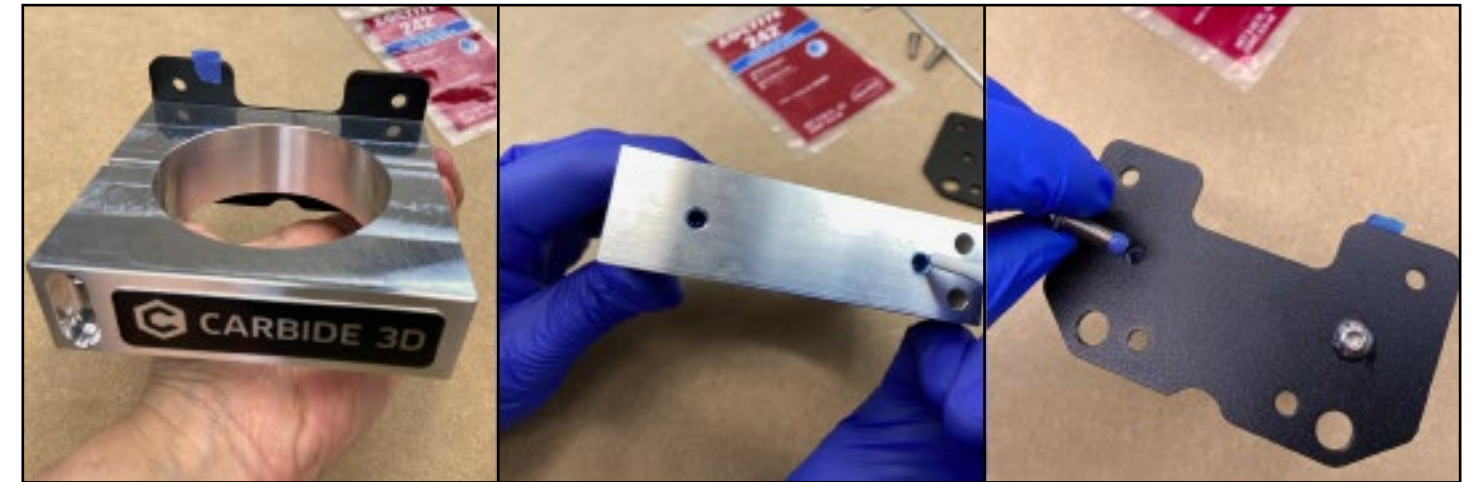

Figure 3-11
2. Use the 3mm hex key and the two (2) M5x16mm button head cap screws to secure the router mount to the **FRONT** of the tramming plate and fully tighten. See **Figure 3-11**.